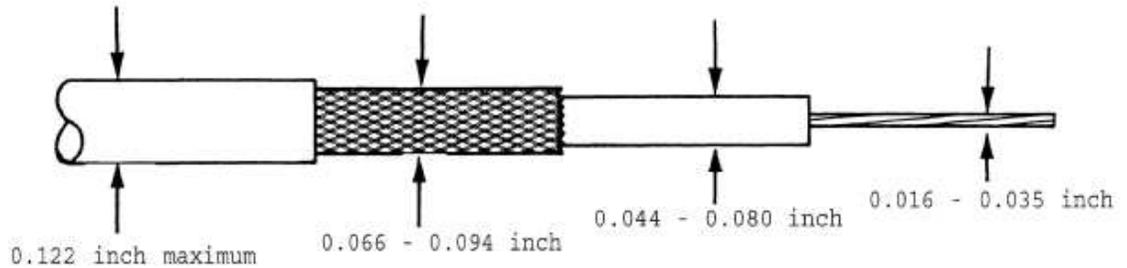

Figure 5-1. Coaxial Cable Size Accommodation: Conventional Stripping
D-602-0144 and D-602-0145 SolderTact contacts can be terminated to coaxial cable of the dimensions shown in Figures 5-1 and 5-2.
- Figure 5-1 applies to cables prepared using conventional stripping.